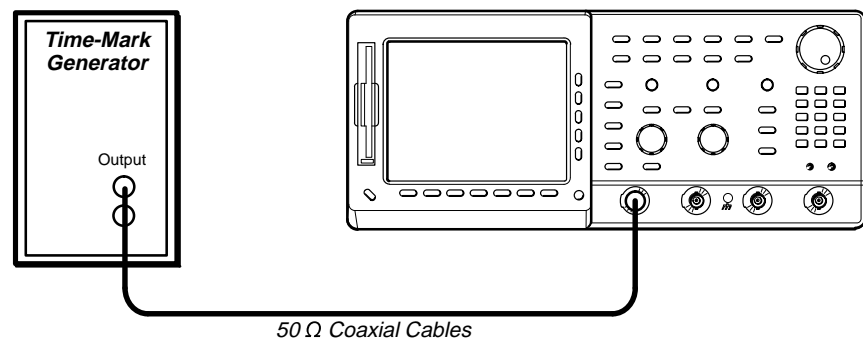

Figure 1-12: Initial Test Hookup
- a. *Hook up the test-signal source:* Connect, through a 50 Ω precision coaxial cable, the time-mark output of a time-mark generator to **CH 1**. Set the output of the generator for 10 ms markers. See Figure 1-12.